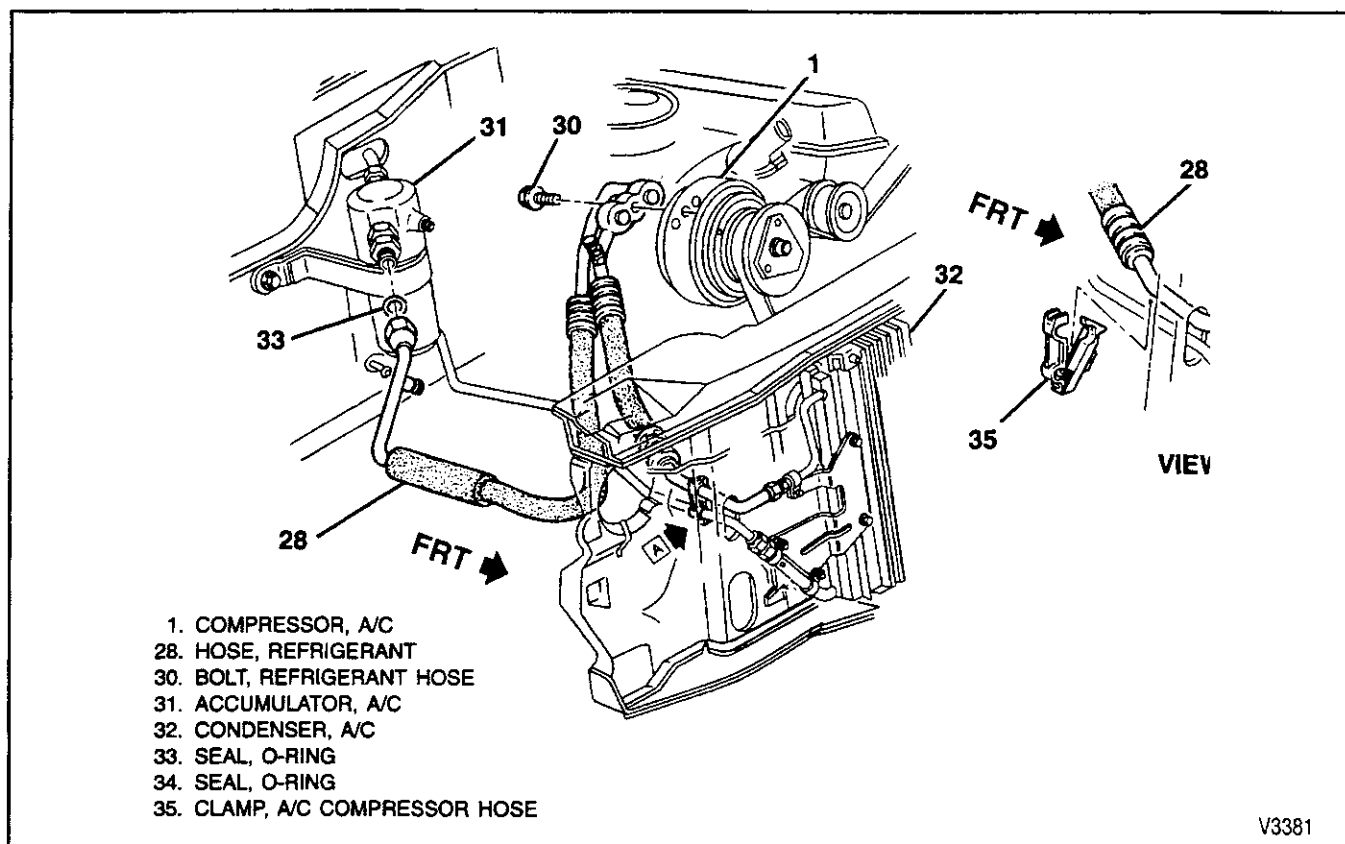

Figure 27—Compressor and Condenser Hose Assembly
- Suburban/Utility and Crew Cab Models (5.7L Engines w/o Aux. A/C): refer to figure 27.